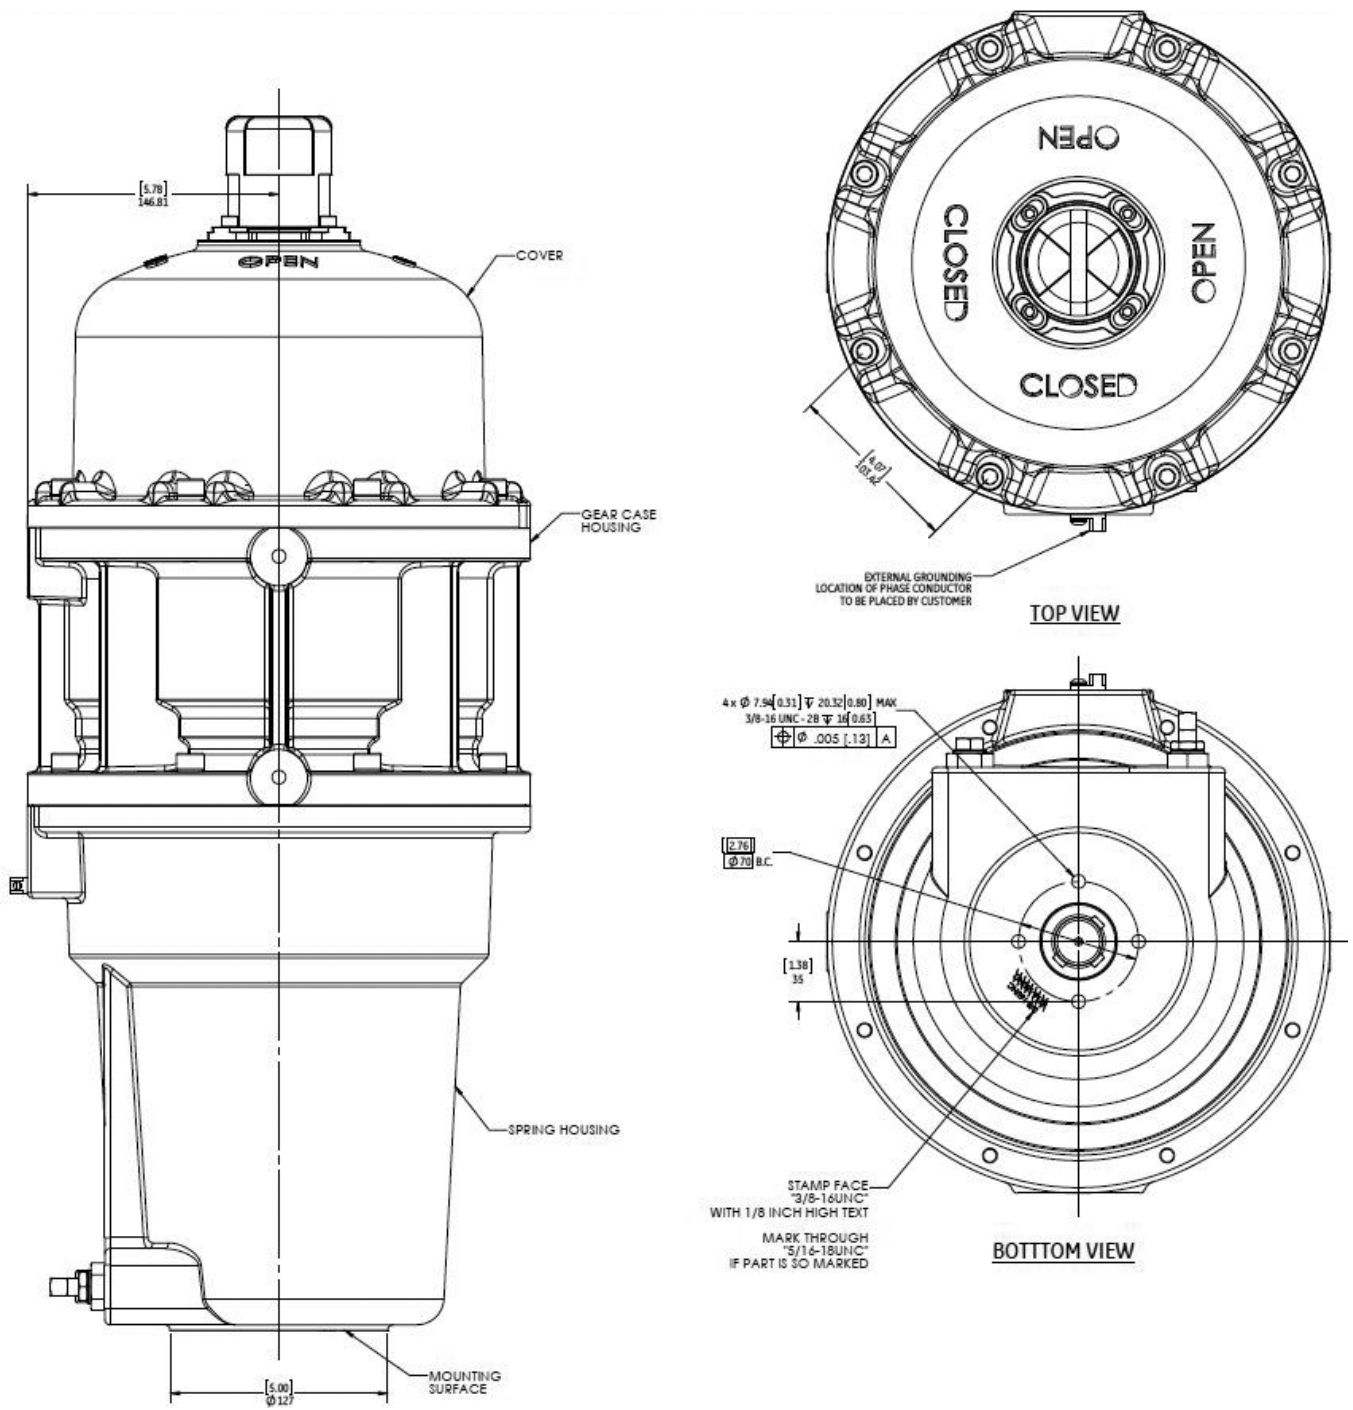

Figure 2
- Use the adjustable, square, end of travel stop screw to adjust the fail end of travel position (**Figure 2**).